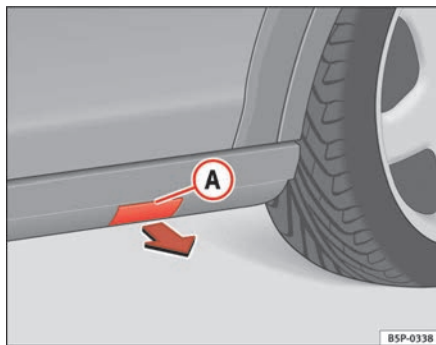

Fig. 180 Plastic sill panel with a cover for the jack anchor
- Remove the cover (A) to access the points for the vehicle jack anchor ⇒ fig. 180.
- Turn the cover in the direction indicated by the arrow, and extract it from its slot ⇒ fig. 180.